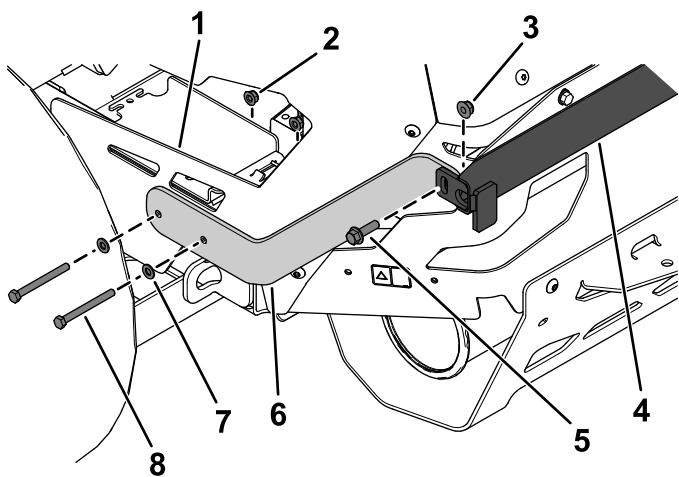

Figure 13
- Loosely secure the left, upper bracket to the left, rear guard and upper support using 2 hex-head bolts (5/16 x 3-1/4 inches), 2 plain washers, 2 flange nuts (5/16 inch), 1 flange-head bolt (3/8 x 1-1/4 inches), and 1 locknut (3/8 inch) as shown in Figure 13.